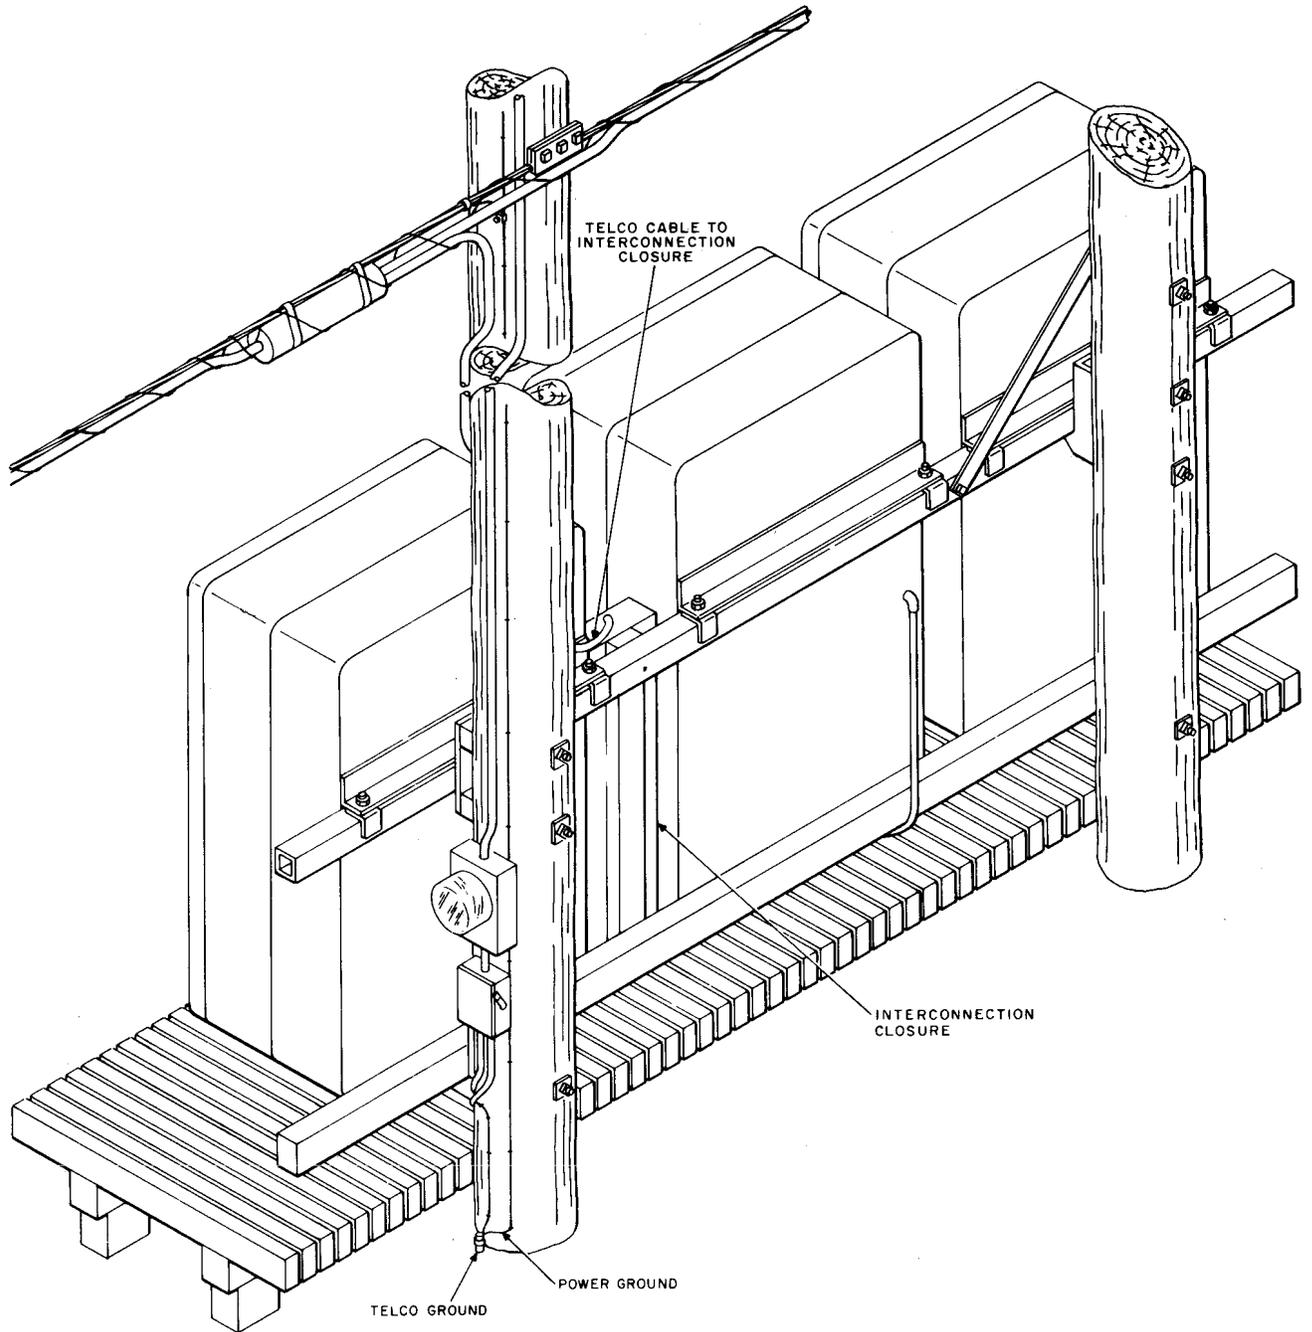

Fig. 19—Completed Three RT Cabinet Installation Using Metal Crossarm
6.19 A completed installation using the metal crossarm is shown in Fig. 19.